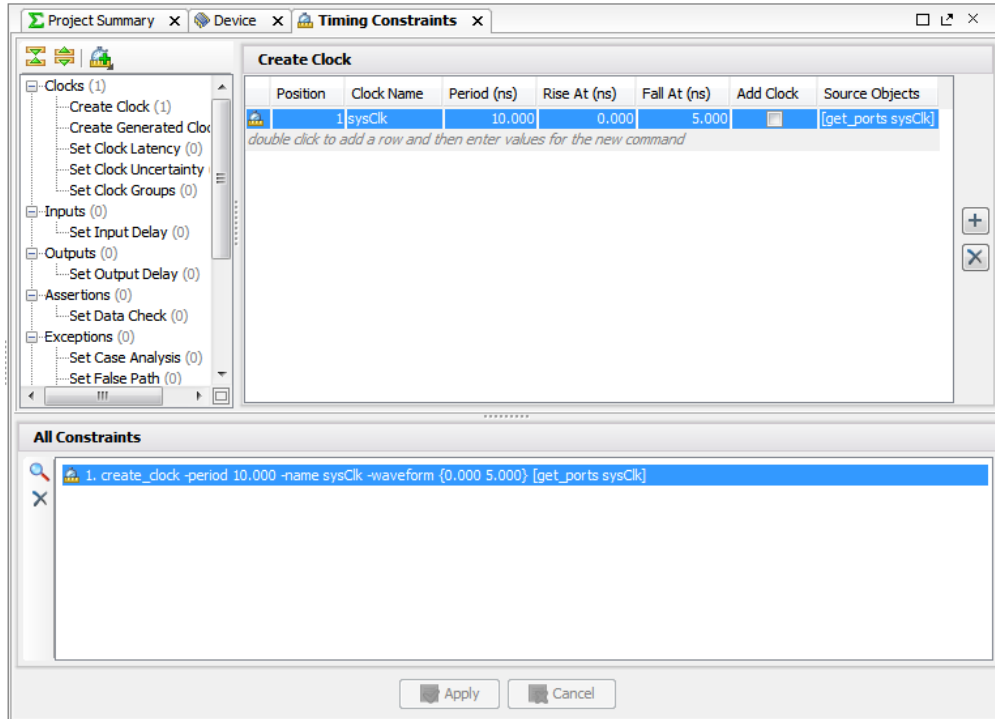

Figure 10: The Added sysClk Constraint
- g. Click **OK** to close the Create Clock wizard, and create the `sysClk` clock constraint as shown in Figure 10: The Added sysClk Constraint.
You can create other timing constraints following the process described in Step 3. You can also enter constraints directly into the spreadsheet of the Timing Constraints window, as shown in Figure 10: The Added sysClk Constraint.